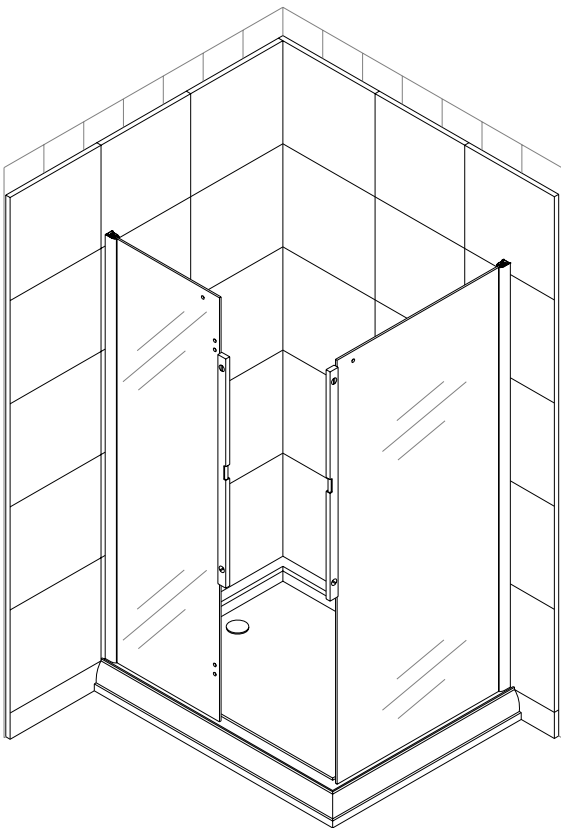

Fig 3
4. Repeat step 1-3 to install another side wall profile and **Wide Stationary Glass Panel (4)**. You need to install profile 34" OR 36 7/8" OR 44 7/8" (refer to Diagram 1) from the corner depending on size of your shower. Check, if stationary glass installed vertical in both directions (fig 3)